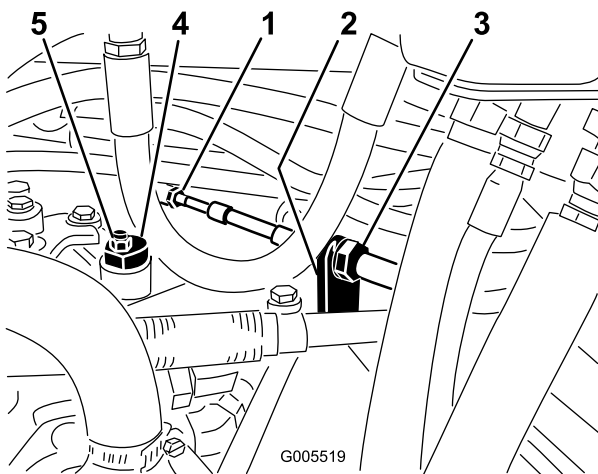

Figure 51
- A. Loosen both jam nuts securing the traction control cable to the bulkhead on the hydrostat (Figure 51). Make sure the jam nuts are loosened equally and sufficiently to allow adjustment.
Note: Loosen the nut securing the eccentric to the top of the hydrostat (Figure 51).
- C. Rotate the eccentric until creep does not occur in either direction. When the wheel stops rotating, tighten the nut locking the eccentric and the adjustment (Figure 51). Verify the adjustment with the throttle in the Slow and Fast position.
- D. From each side of the bulkhead, tighten the locknuts evenly, securing the traction cable to the bulkhead (Figure 51). Do not twist the cable.